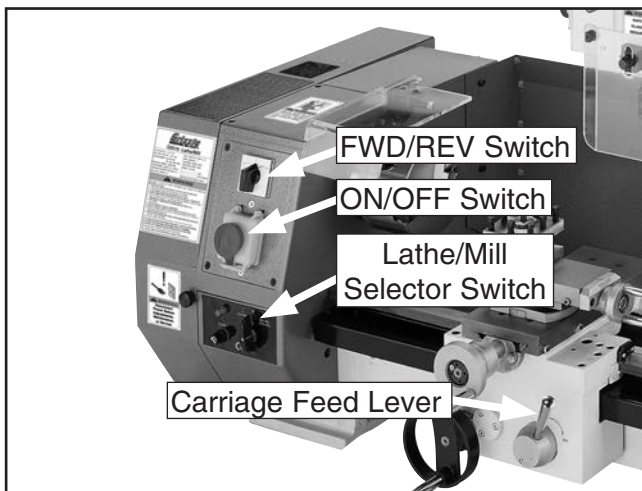

Figure 10. Lathe controls.
2. Familiarize yourself with the lathe controls shown in **Figure 10**. Make sure the STOP button is all the way down before continuing.